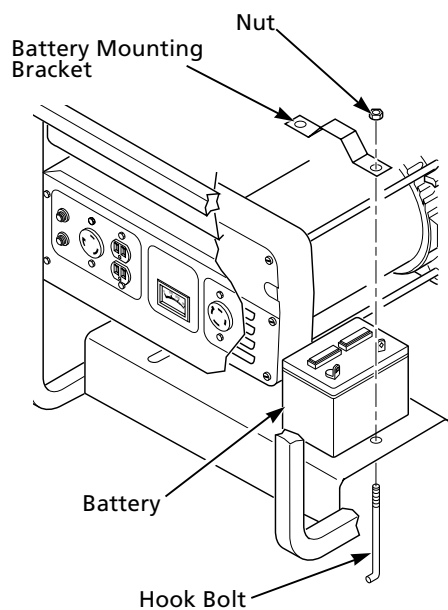

Figure 15 – Battery Hold-Down System (Model 3W739D Shown)
1. Secure battery to generator by battery hold-down system. This system consists of the battery mounting bracket, hook bolt, and nut (See Figures 15 and 16).